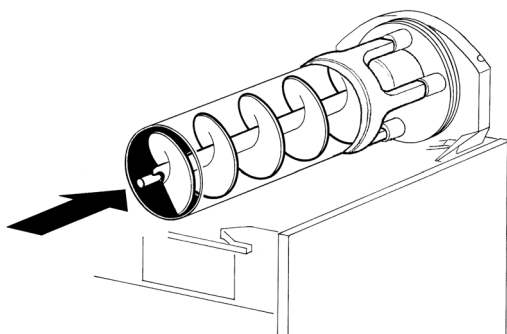

figure 15
- 5 Insert the auger into the evaporator taking care to accompany it to the end so as to prevent it from hitting against the rear wall (see figure 15).